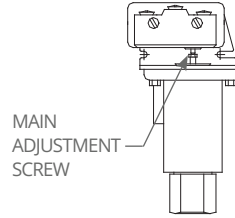

Figure 2
- 4 Using a 1/4" open end wrench, turn main adjustment screw counterclockwise to lower set point or clockwise to raise set point. (See Figure 2).